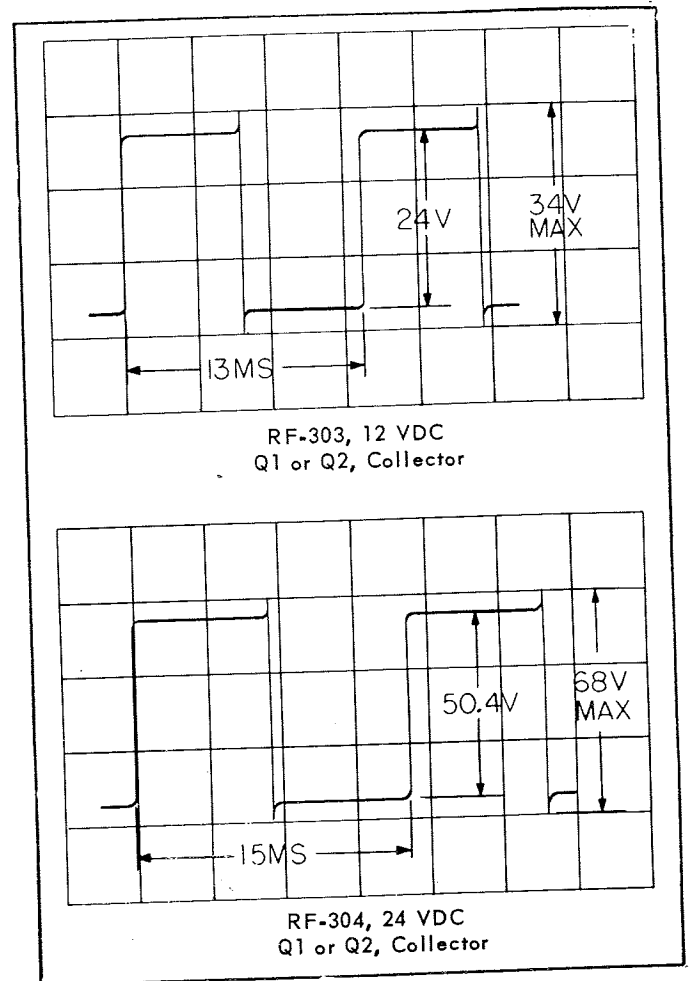

Figure 6.24 - DC Power Module Waveforms
If DC primary fuse is not blown, but the set does not operate, the DC Power Module probably is not oscillating due to overloading in the transceiver or defective DC Power Module circuits. If possible, check operation of transceiver on AC to determine which is the case. If the DC Power Module appears to be defective, check its transistor collector to ground (T1 pin 7) waveforms against those in figure 6.24. The following procedure can be used to check the condition of transistors Q1 and Q2, and associated circuits, of the 13.5 VDC Power Module.
6.21.2 POWER MODULE VOLTAGE MEASUREMENTS. Collector to ground waveforms for transistors Q1 and Q2 in both Power Modules are given in figure 6.24.